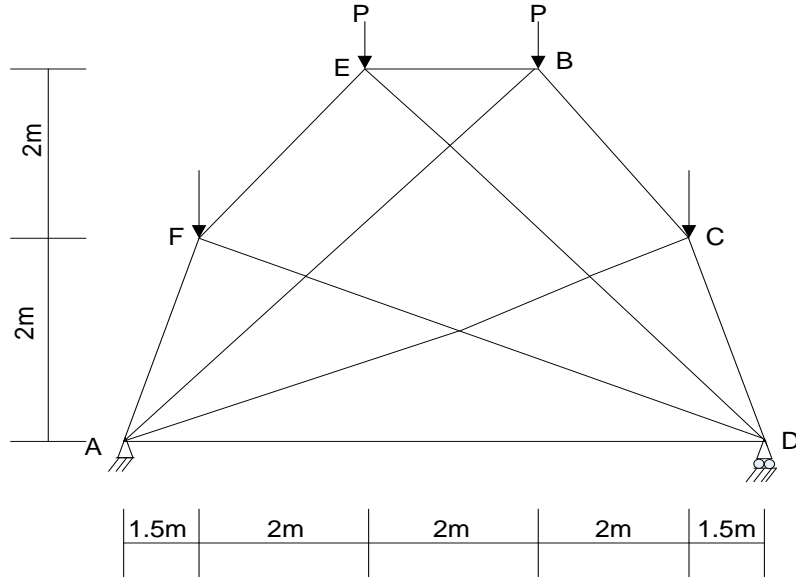

Figure 4
4. The compound truss shown in Figure 4 consists of two simple trusses ABC and DEF that are linked together by three bars AF, ED and CD. Determine the bar forces in these members.